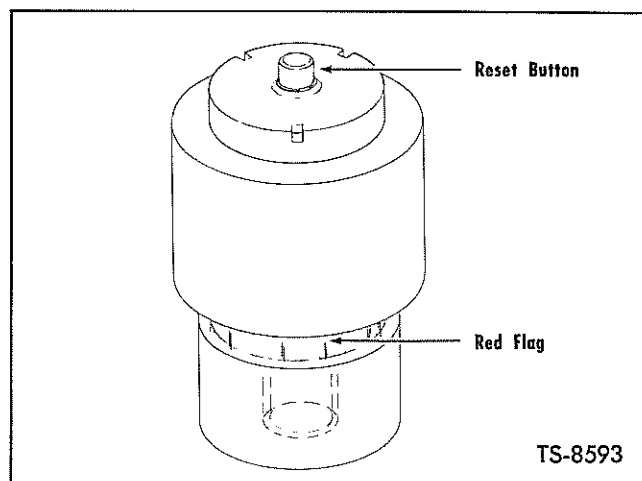

Fig. 11. Air Cleaner Service Indicator
**Check Air Cleaner Service Indicator:** Mounted on the air cleaner outlet to the engine, the service indicator is factory set to signal when replacement of the filter element is required. Refer to Figure 11.